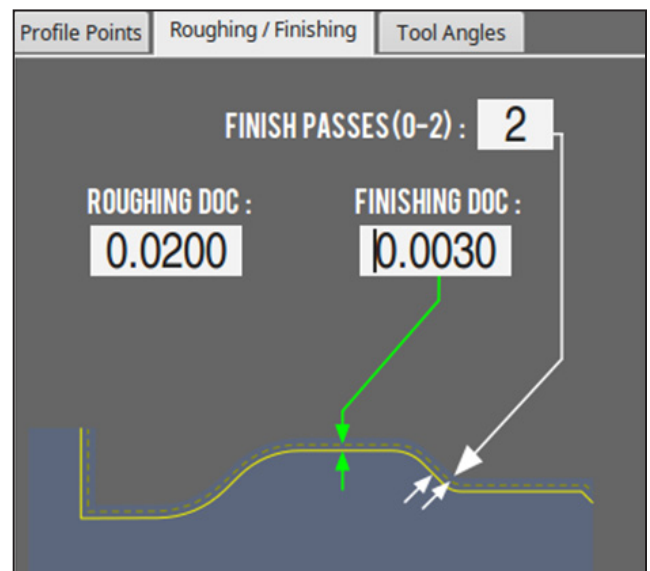

Figure 5.34
- Click the *Finishing DOC* DRO field or the *Finish Passes* DRO field to display a finishing graphic (see **Figure 5.34**).